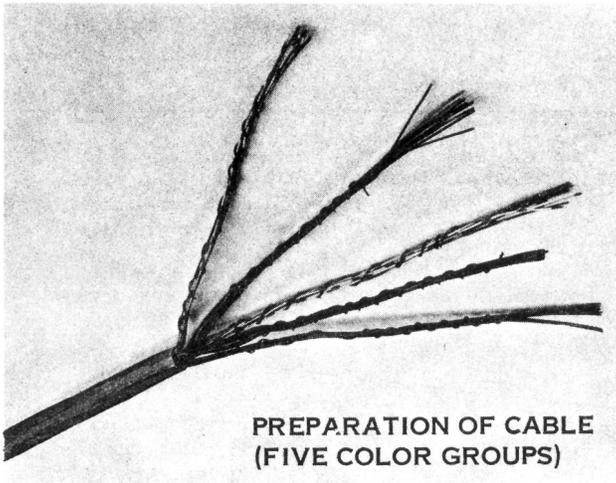

Fig. 2
3.02 Separate wires into five color groups (white, red, black, yellow, violet), then wrap a piece of wire around each group to keep separated. (See Fig. 2.)